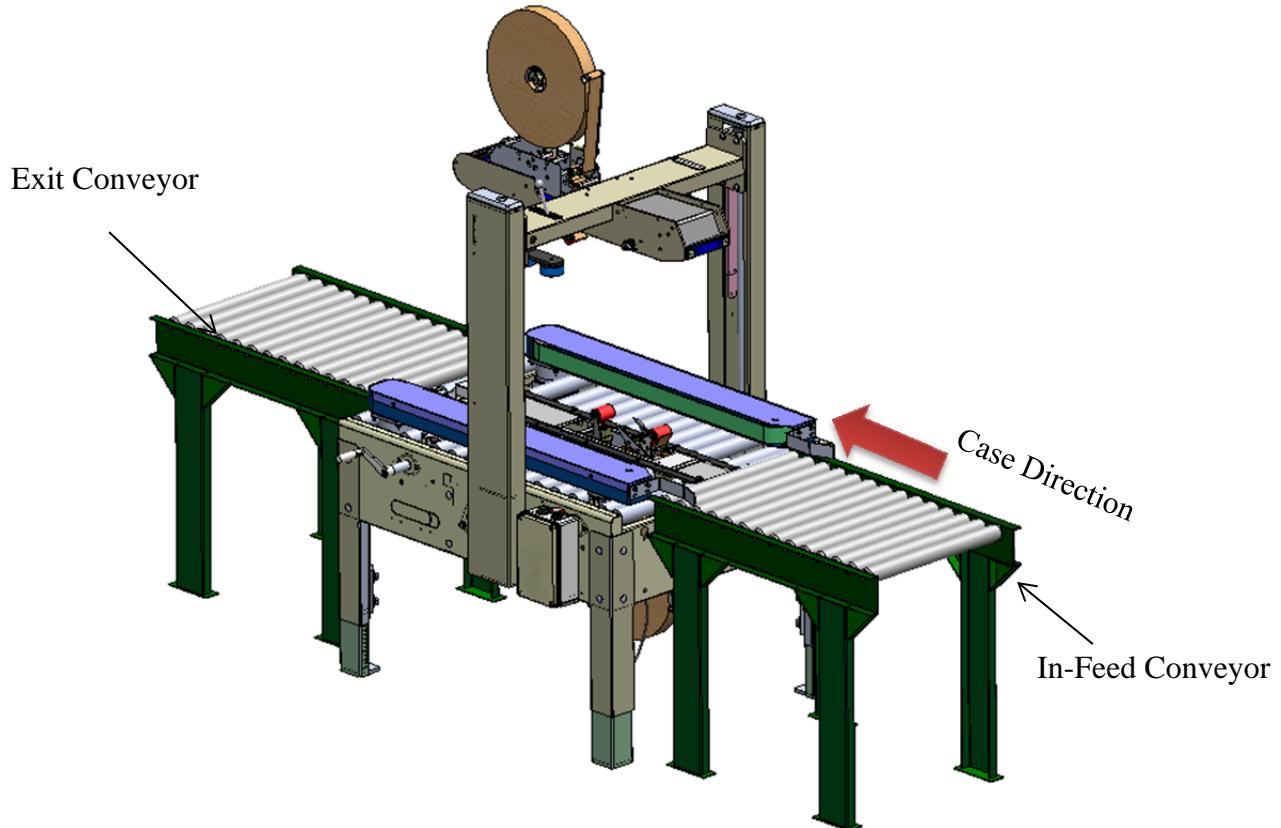

**Figure-9**
- a. Install Four (4) Mounting Studs Into Machine Base With Hardware Included With Roller Table. Per **Figure-9**.